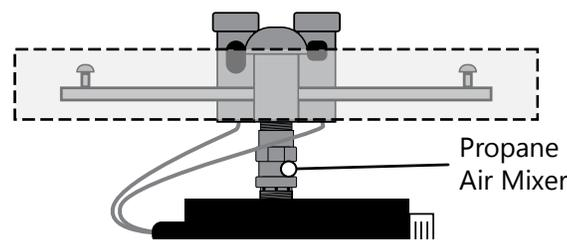

FIGURE 2: AIR MIXER LOCATION
- b. NOTE: The air mixer must be installed to use liquid propane. The “holes” on the air mixer should always face DOWN, away from the burner and pan. The air mixer should be installed immediately below the burner. (FIG 2)
- If using with propane gas - ONLY use with air mixer correctly installed. (See Fig 2) ½ " air mixer for propane includes stamped marking for gas flow direction. Air mixer is not required with Natural Gas.